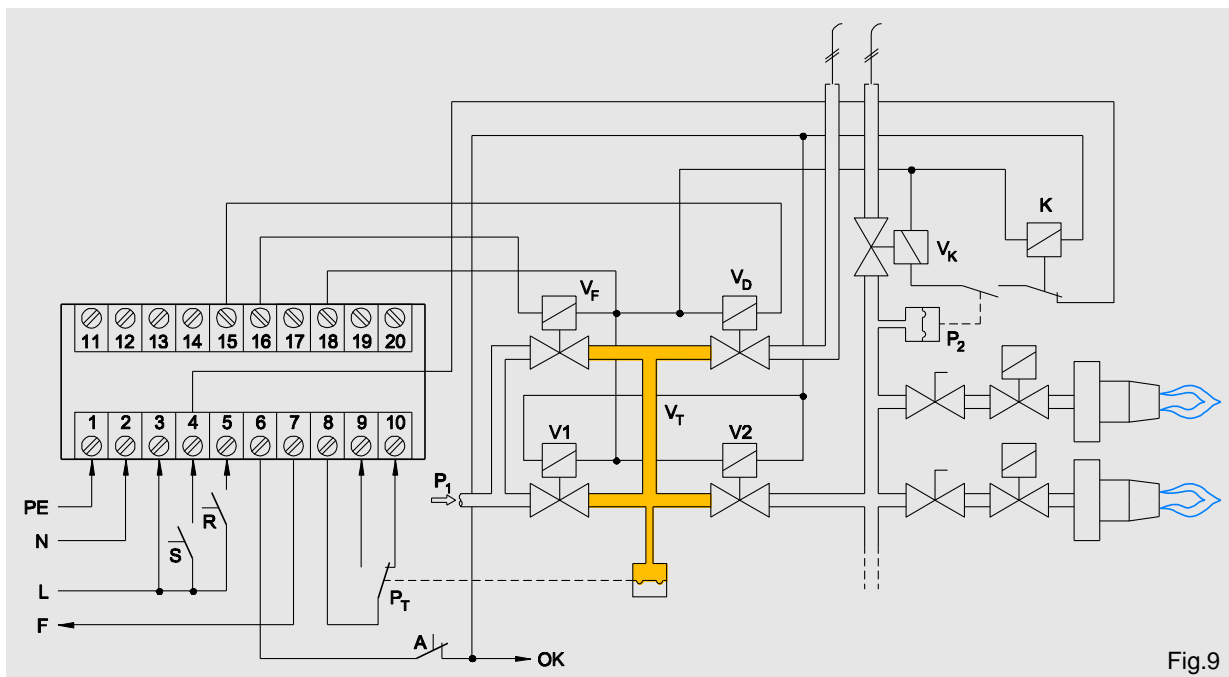

Fig.9
**Multiple burner system with 3 safety valves installed in series (Fig.9)**